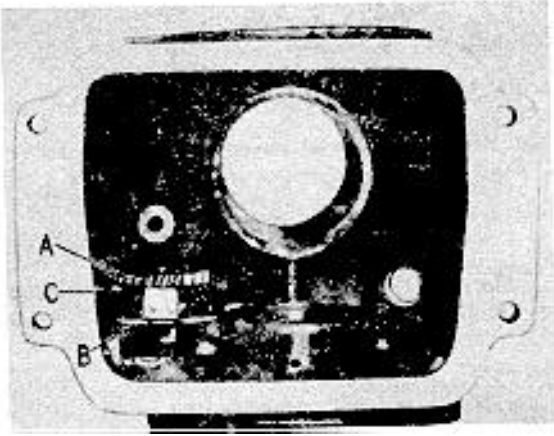

Figure 16
- a. Current production engines have a cross shaft with an extension riveted in place to line up with governor gear. Figure 16. A needle bearing is provided (in block) to hold cross shaft in alignment.